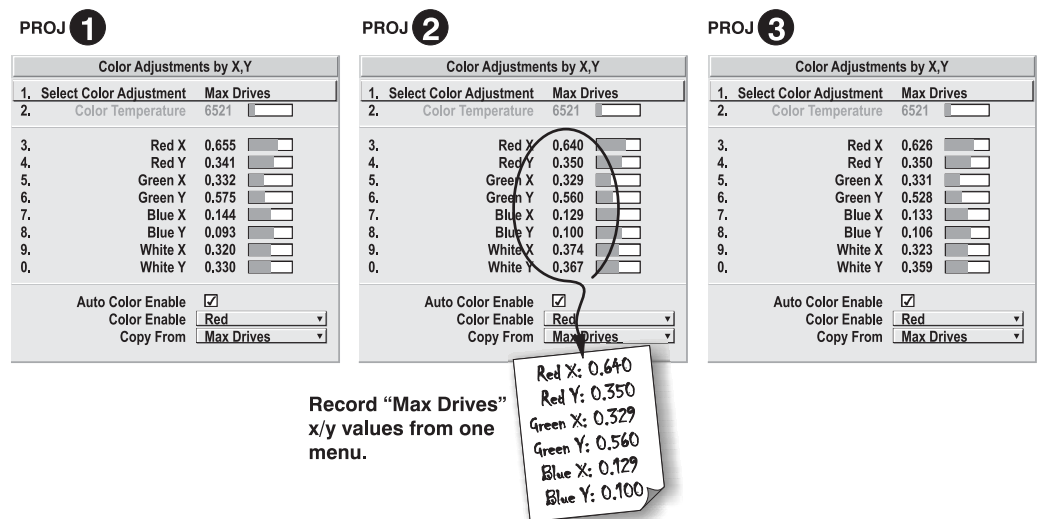

Figure 3.27. Jot Down a Set of “Max Drives” X/Y Values
4. Display the *Color Adjustments by X,Y* menus for all projectors. Each menu shows the x/y coordinates defining the “Max Drives” color gamut for this projector. Jot down the values shown in one (any) of the displays. See Figure 3.27. Or use the “Copy From” function to copy them into a “User” gamut in one projector.